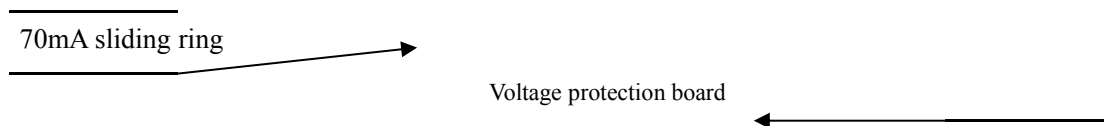

Figure 14
4.9 when indicated value of 30mA、50mA、70mA is insufficient or too big (15%) please adjust sliding ring on the variable resistance in the controller (see Figure 14)